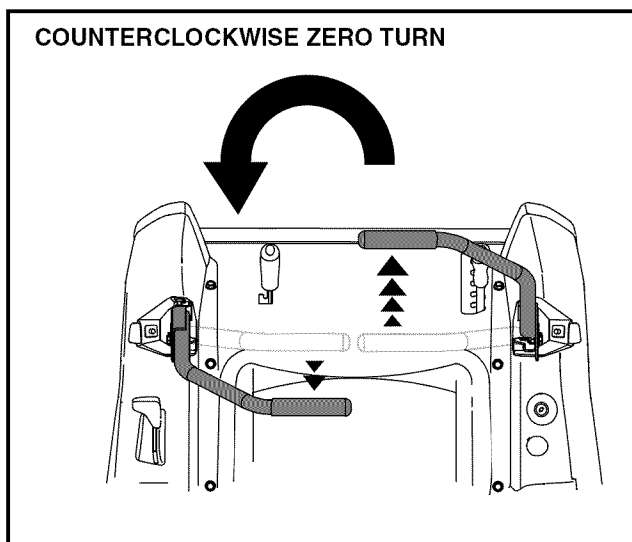

Figure 20
- To turn counterclockwise, move the right control lever forward while simultaneously moving the left control lever rearward. See Figure 20.